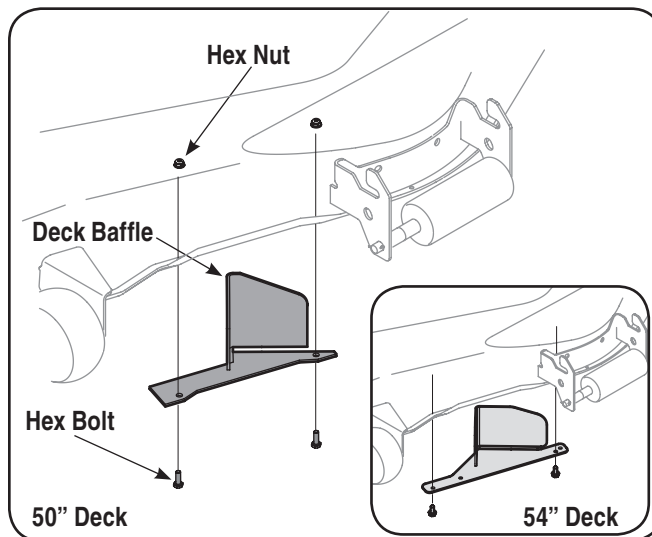

Figure 4-17
2. Install the front deck baffle using two 710-3015 1/4-20 hex bolts and 712-04064 1/4-20 flange lock nuts from hardware pack 689-00163 included with this bagger kit. See Fig. 4-17.